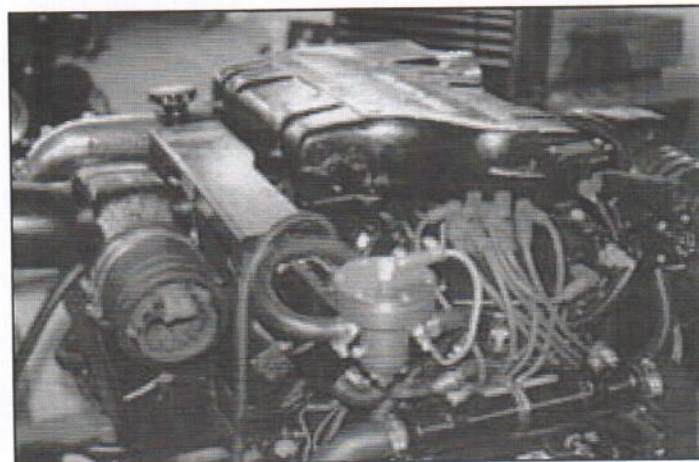

FIGURE D6
4. On the rear of the computer box (just to the port side of the stock electric fuel pump and VST (vapor separator tank)) are two bolt holes, one above the other. Mount the ATI regulator/bracket assembly to these holes using two supplied 1/4" x 3/4" bolts and lock washers. The regulator should be mounted so the adjuster screw is on top. See figure D6.